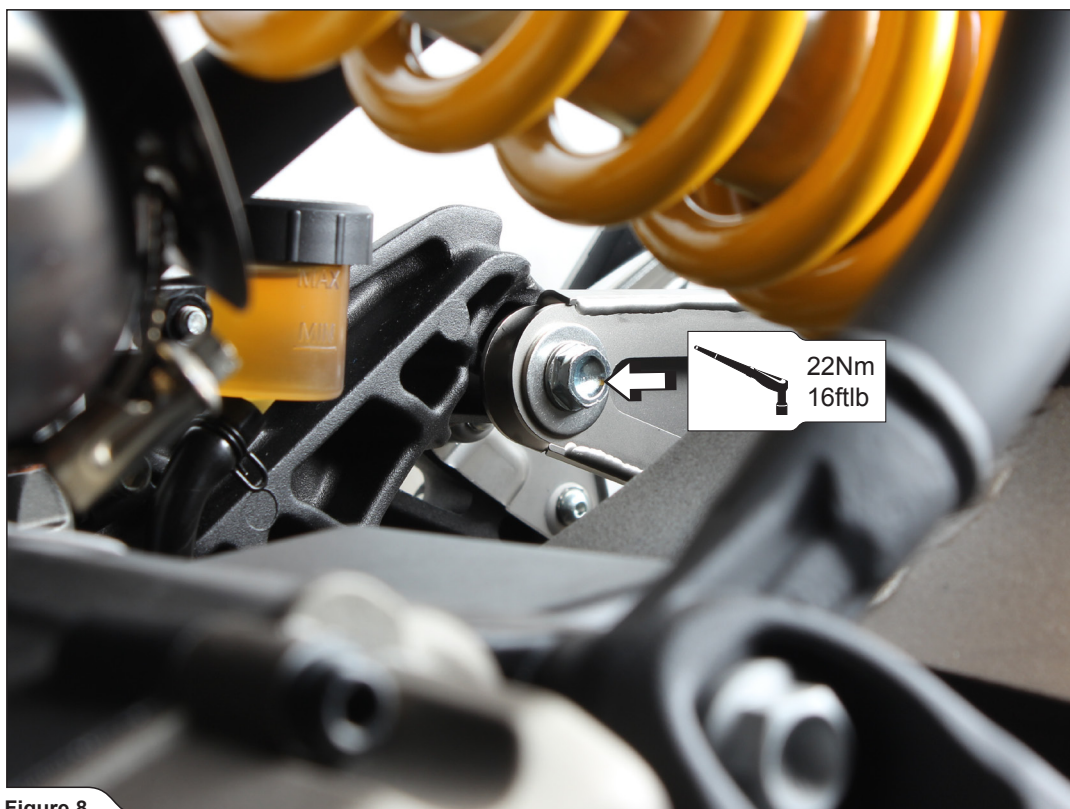

Figure 8
5. Align the muffler in respect to the motorcycle and tighten the muffler's bracket bolt, Akrapovič clamp and stock clamp to the specified torque (**Figure 8, 9, 10**).